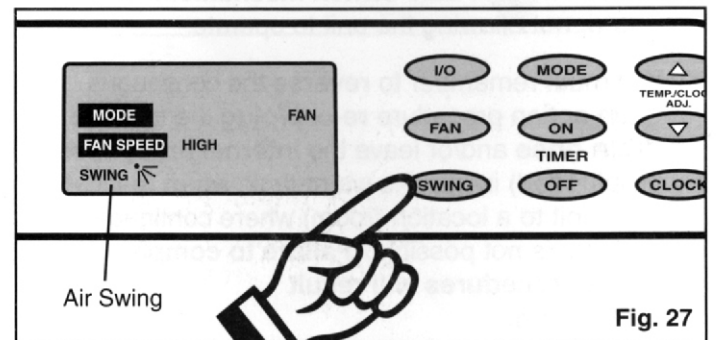

Fig. 27
- 4) Press the **SWING** key to activate the automatic air swing (oscillating) feature (the air swing symbol will appear in the **LCD** window). *Fig. 27.* To deactivate the air swing feature, press the **SWING** key again.